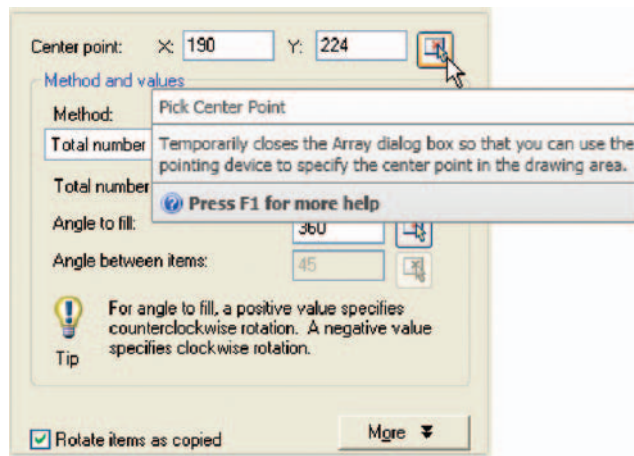

Fig. 5.21 Second example – Array – the **Pick Center point** button
3. Click the **Select objects** button of the dialog and window the drawing. The dialog returns to screen. Click the **Pick center point** button (Fig. 5.21) and when the dialog disappears, pick a center point for the array.